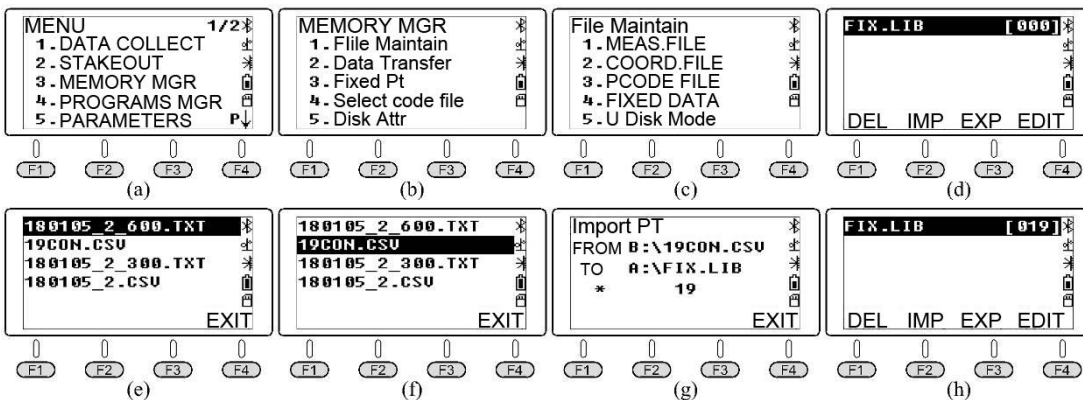

Figure 2-36 Import coordinates of file 19con. CSV into instrument memory
Copy the file "19con.csv" to the SD card root directory. Insert the SD card into M8. Press **MENU** to enter the interface of "Menu 1/2" [Figure 2-36(a)]. Press **s** (MEMORY MGR.) (1) (File Maintenance) (4) (FIXED DATA) to enter the interface as shown in Figure 2-36(d). M8 use file "FIX. LIB" to store the coordinate data of known points imported by the user, and the number "[000]" on the right of the file indicates that the number of known coordinate points currently stored in the file is 0.
Press **F2** (IMP.) and the screen will display the files list against the extensions of dat, txt, and csv in the root directory of the SD card [Figure 2-36(e)]. Move the cursor to the file 19CON. CSV [Figure 2-36(f)]. Press **ENT** and the system starts to import coordinates data of 19 control points in the file to the known coordinate file FIX.LIB [Figure 2-36(g)]. By default, the drive letter of the SD card is B, and the drive letter of the instrument memory is A. Figure 2-36(h) shows the page after the coordinates data is imported. Reading at [019] on the right of the file name FIX.LIB indicates that the number of known points in the file is 19. Press **ESC** for four times to exit the Menu